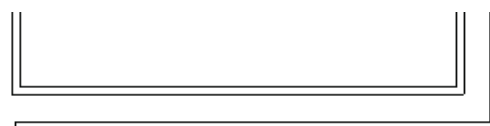

Figure 2–42
- Elements connected at a corner, if offset to the outside of the corner, automatically extend to meet at the offset distance as shown in Figure 2–42.